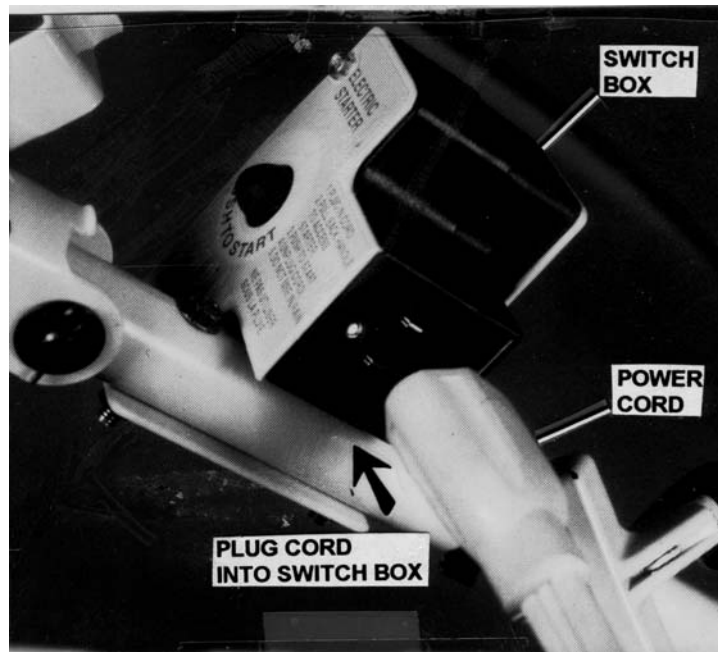

FIGURE 10
2. Connect power cord to the handle mounted switch box. See Figure 10.